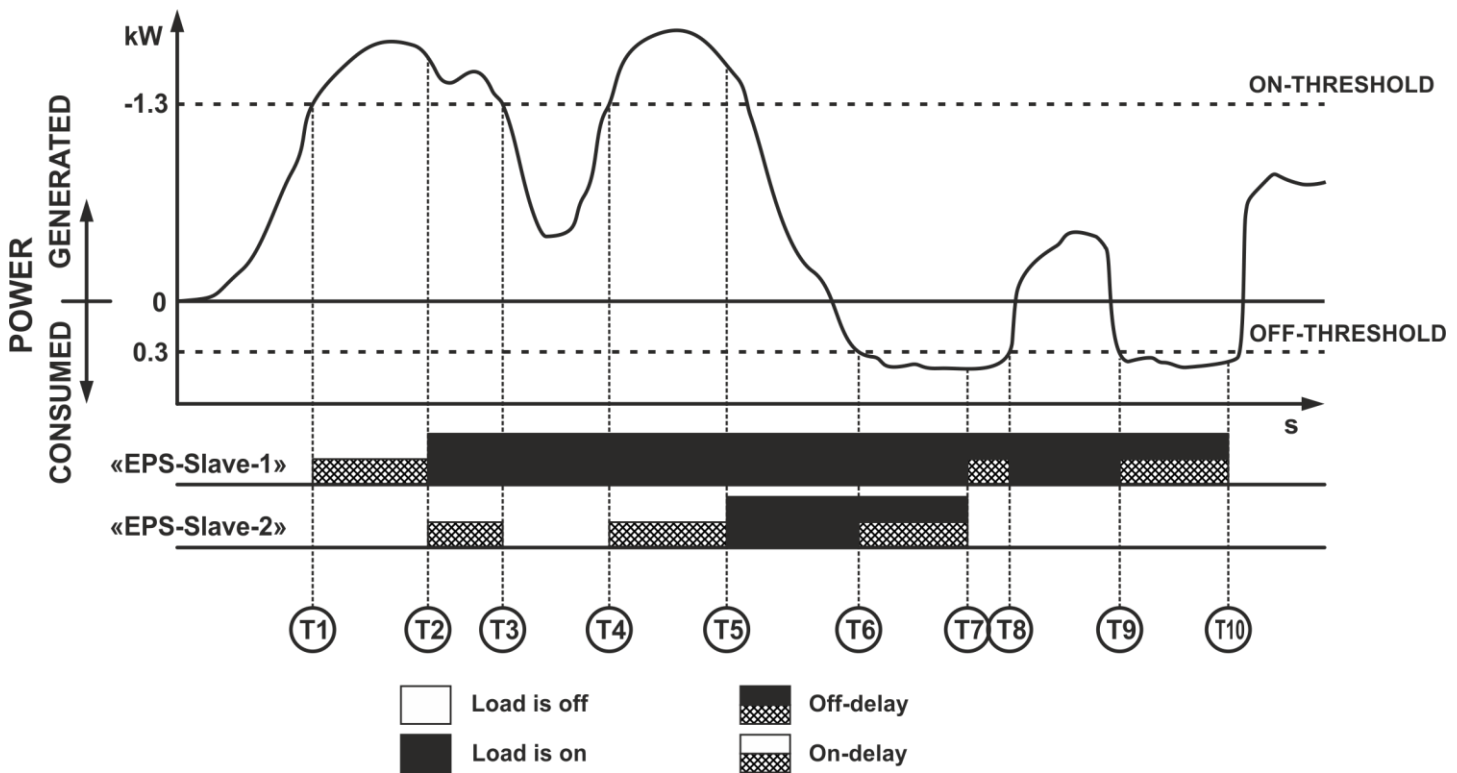

Fig. 14 – Operation of the overflow relay mode
The «EPS-Master» constantly measures the values of the **generated** and **consumed** power and, depending on the result of measurement, controls the connected «EPS-Slave» according to the following algorithm, shown in Fig. 14:
- 60 s time starts counting (parameter «On-delay», time T1 – Fig. 14);